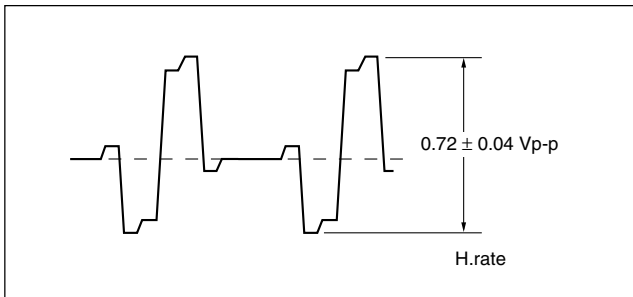

Fig. 3-6-6 R-Y level
- (1) Connect an oscilloscope to TP4 round (R-Y).
- (2) Adjust VR3 so that the R-Y level is 0.72 ± 0.04 Vp-p as shown in Fig. 3-6-6.